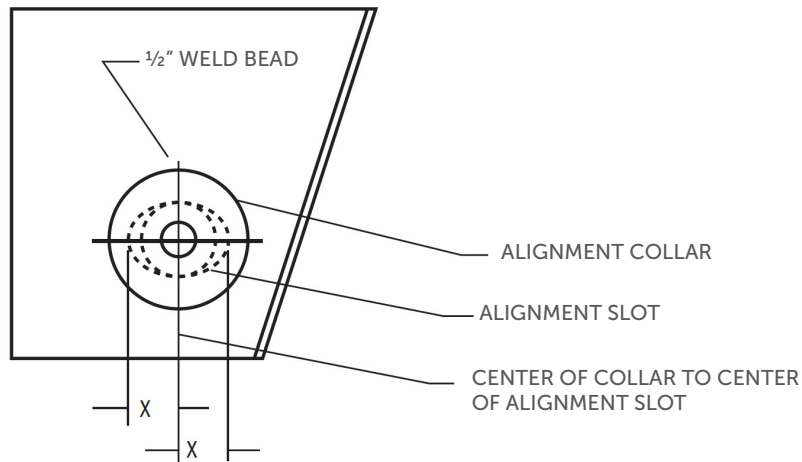
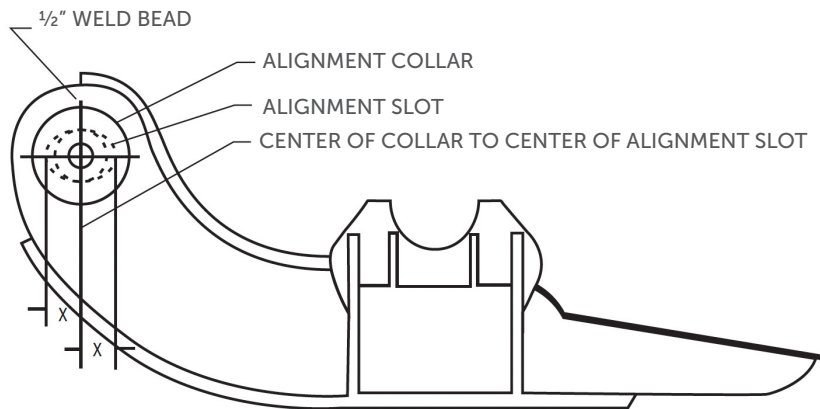

Figure 9
Figure 10
4. Place a beam of the front suspension in such a way that the alignment collar is in the center of the alignment groove, apply a welding bead to the collar against the outer side plate of the hanger (See **Figure 9**) or the side plate of the beam (See **Figure 10**) depending on the model of the suspension.